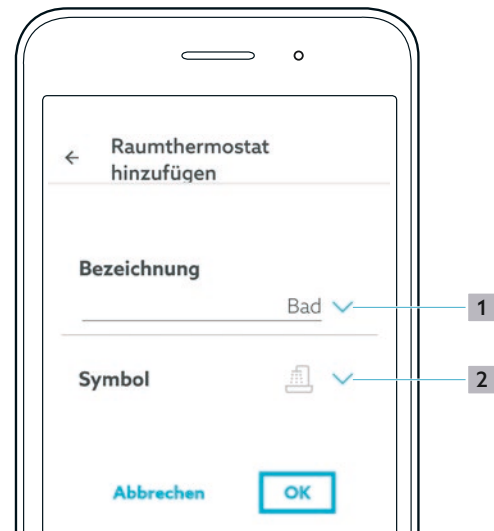

Fig. 13: ClimaCon F app - Start screen
By tapping the arrow (position **1** in Fig. 13 on page 16), you have the possibility to make the appropriate selection from a given list. Alternatively, you can enter a desired text manually.
- 6 Select a suitable symbol from the list (position 2 in Fig. 13 on page 16).